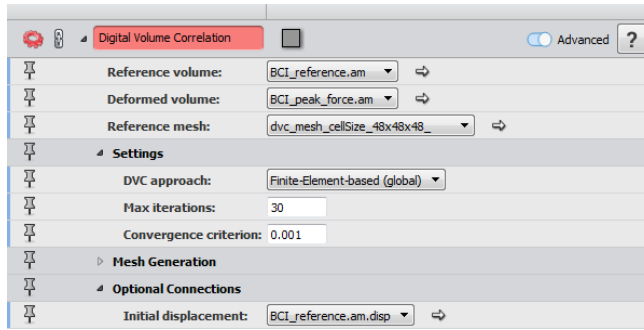

Figure 20.12: Finite-Element-Based (global) Approach.
- Change the port *DVC Approach* to *Finite-Element-based (global)*. Set the *Max Iterations* port to 30 and *Convergence criterion* to 0.001. Attach the mesh `dvc_mesh_cellSize_48x48x48_` to the port *Reference mesh*. In the *Optional Connections* section, set the *Initial displacement* to `BCI_reference.disp` (displacements computed using the local approach with a sub-volume size of 110 voxels) (see Figure 20.12). Click **Apply**.